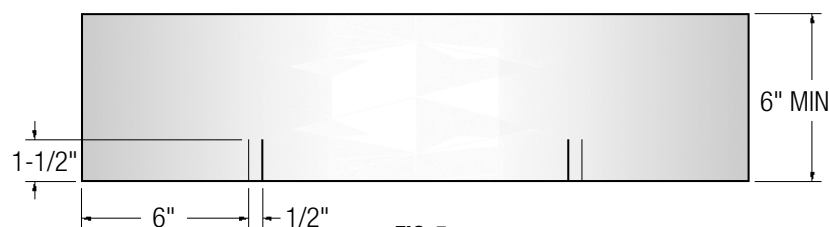

FIG. 5
- C) Cut 1-1/2" slits at each end of the flashing as shown below. (Fig. 5)